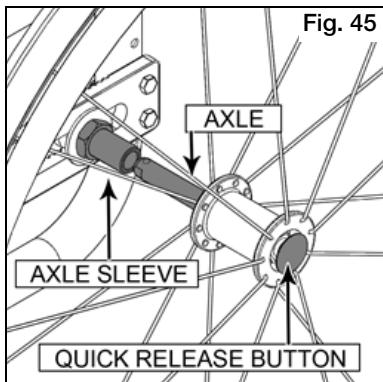

Fig. 45
- a. Push in the quick release button on the axle to allow the locking balls to retract. Make note of the difference between the extended and depressed position of the axle release button and its effect on the locking balls on the other end of the axle (Fig. 45).
- c. Push on quick release button again and slide axle into axle sleeve (Fig. 45).